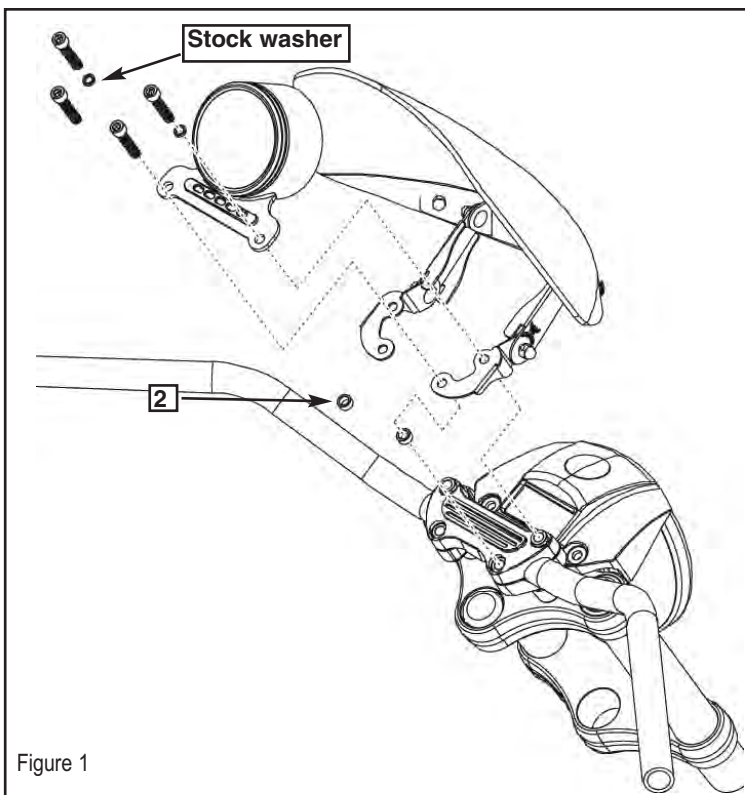

Figure 1
2. Refer to **Figure 1** and place a Bushing (2) in the rearward hole. **Figure 1**
3. Install the Gladiator Clamp with stock bolts and washers. **(1/4" Allen Wrench) Figure 1 and 2**